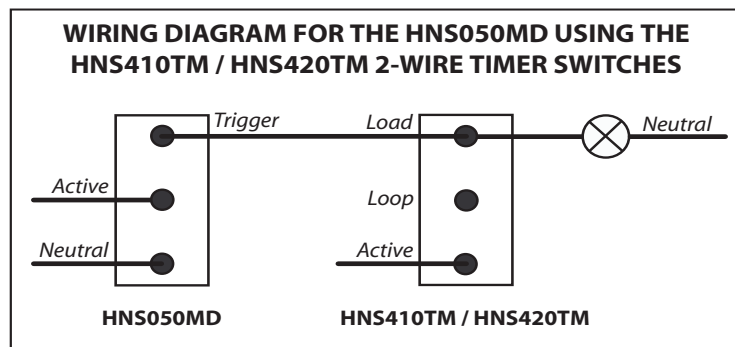
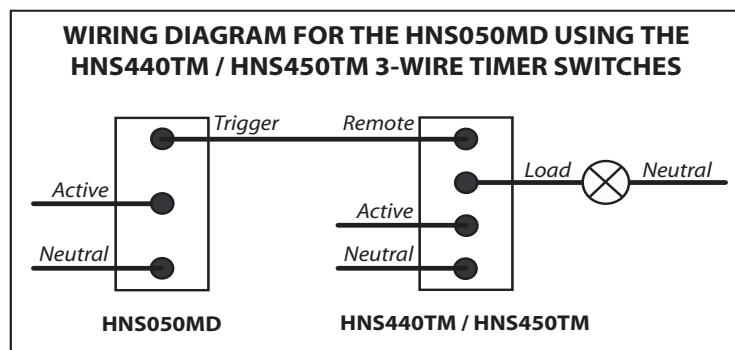

Figure 2
Figure 3
- Connect the HNS050MD and Cabac S-Click Timer Switch as per the wiring diagram in Figure 2 for 2-wire timer (HNS410TM/ HNS420TM) installation or Figure 3 for 3-wire timer (HNS440TM/ HNS450TM) installation.